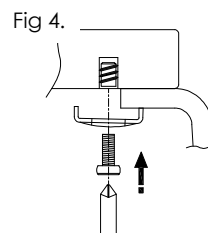
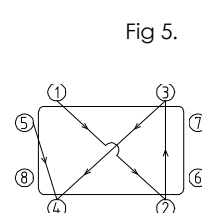

Fig 4.
Fig 5.
- Place the sink down squarely onto the rear face of the worktop and flush to the cut-out edge. Using the 'U' shaped brackets and bolts loosely clamp the sink to the worktop underside as shown in fig 4. Tighten the brackets in an order similar to that shown in fig 5. From the top face of the worktop check that the sink position is aligned to the cut-out before tightening the 'U' brackets down fully.